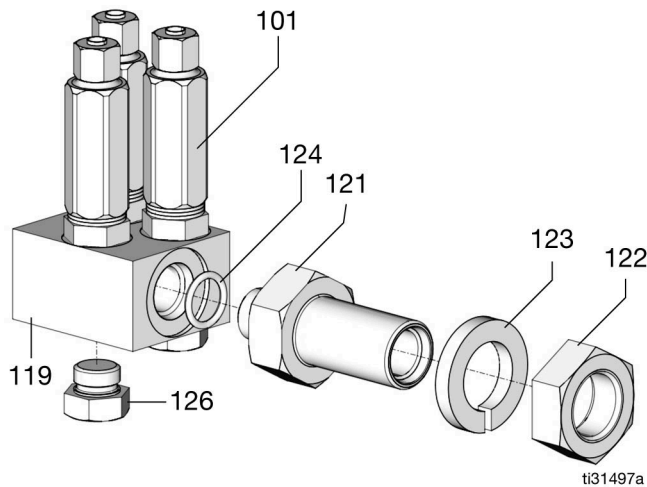
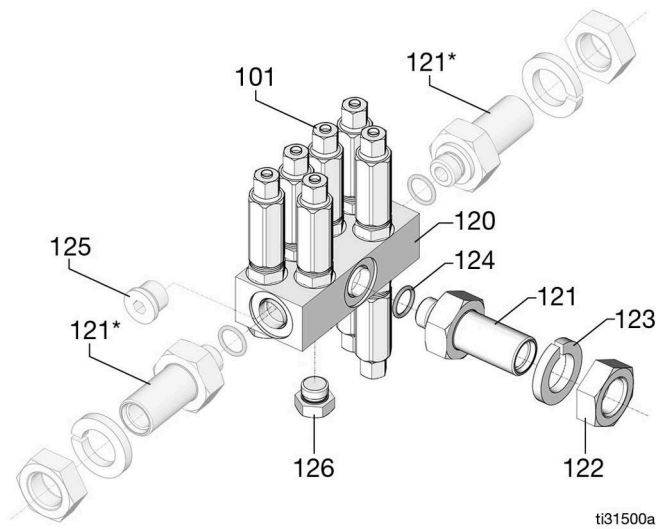
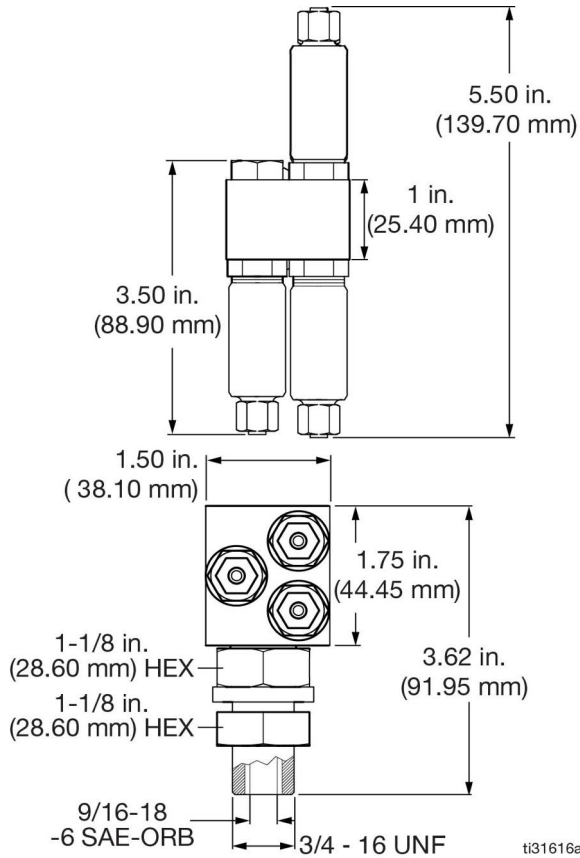

FIG. 39
FIG. 40
FIG. 41
- 6 port manifold - use in lubrication systems with 6 or less lubrication points (FIG. 39 and FIG. 41).
- 12 port manifold - use in lubrication systems with 7 to 12 lubrication points (FIG. 39 and FIG. 40).
*In FIG. 40 the Manifold Stem (121) is shown installed in the bottom port. It can also be installed in the side ports.
1. Install the manifold stem (121) and o-ring (124) in the inlet port of the injector manifold (119 or 120) (FIG. 39 and FIG. 40, page 54).
2. Use plugs (126) to block any ports not used in the injector manifold (FIG. 39 and FIG. 40, page 54). Be sure the o-ring is installed on the plug. If additional lube points are needed, these plugs can be removed and replaced with appropriate sized injectors and lube lines.